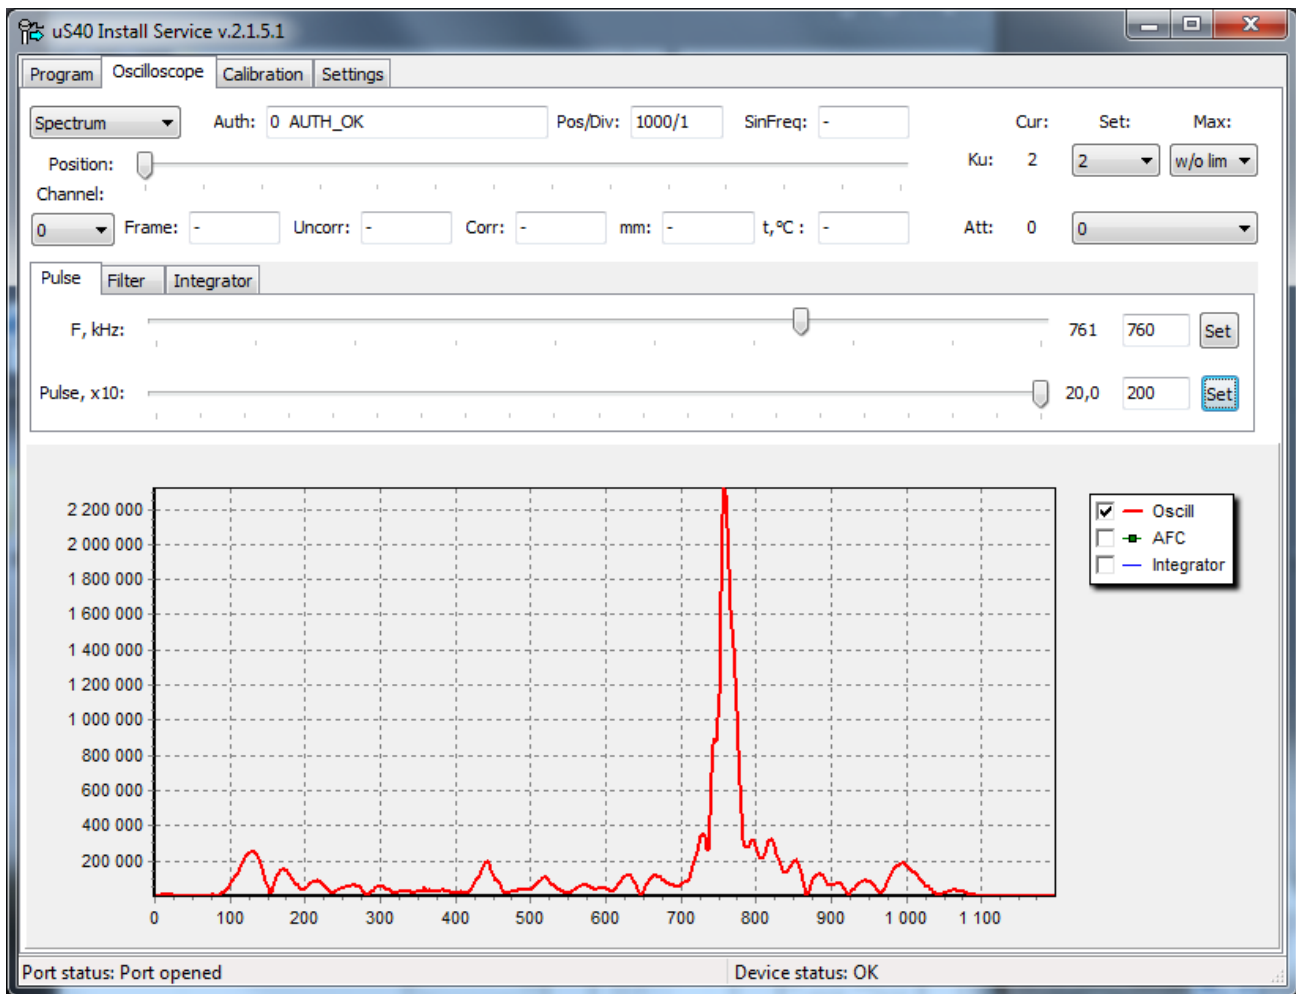

Fig. A.16
f) Go to the “Impulse” tab, in the field “F, kHz” **enter the value of the operating frequency**. Press the “Set” button. In the field “Imp, x10:” enter the value **200**. Press the “Set” button (Fig. A.16):